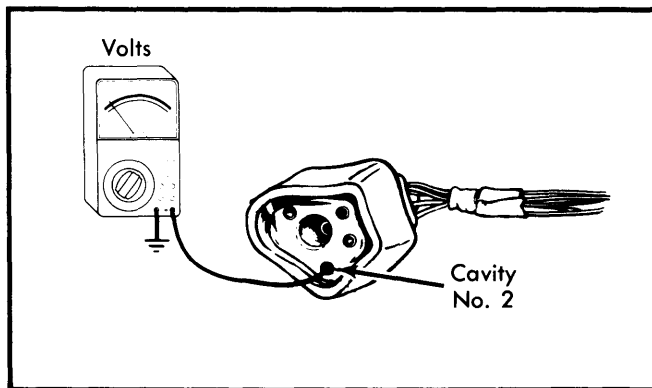
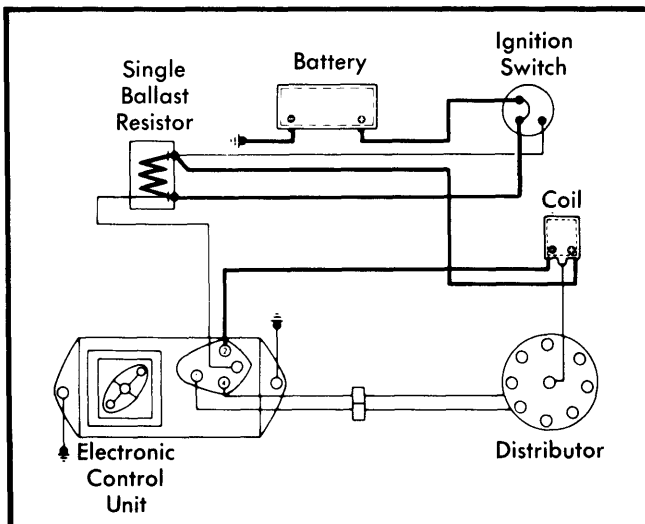
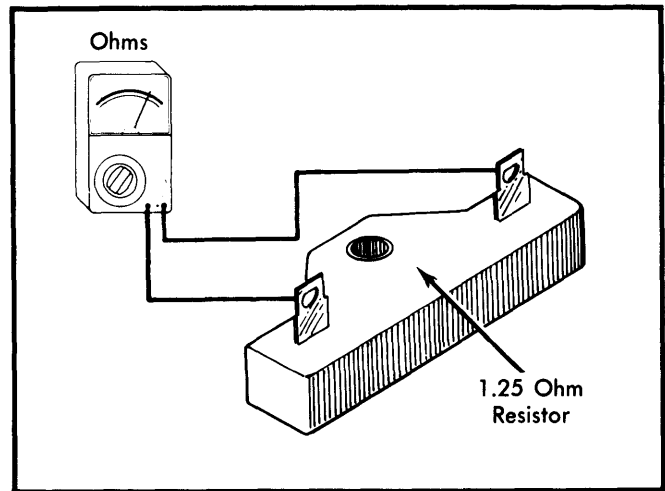

Fig. 6 Checking Voltage at Cavity No. 2
Fig. 7 Circuitry Checked if Cavity 2 Reading Is Not to Specifications
Fig. 8 Checking Ballast Resistor Resistance
3) Now, connect positive voltmeter lead to harness connector cavity No. 2. Voltmeter reading should be within 1 volt of battery voltage. See Fig. 6. If reading is not to specifications, check and repair wiring harness and components illustrated by dark lines in Fig. 7.
4) If when checking wiring in previous step (dark lines in Fig. 7), battery voltage exists at positive terminal of ignition coil, make primary and secondary coil resistance checks and check resistance of ballast resistor. See Fig. 8. Remove wires from resistor and attach leads of an ohmmeter to each resistor terminal. Resistance should be 1.1-1.3 ohms. If reading is not to specifications, replace resistor.